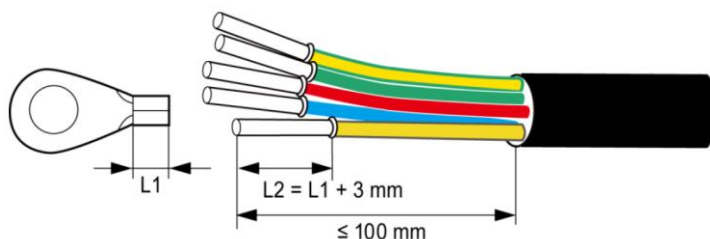

Figure 4.20 Wire crimp terminal
(5) Crimp the five wires (L1, L2, L3, N, PE) of the three-phase utility grid and the OT terminals firmly to ensure that the conductor of the wire is not exposed, as shown in Figure 4.20;